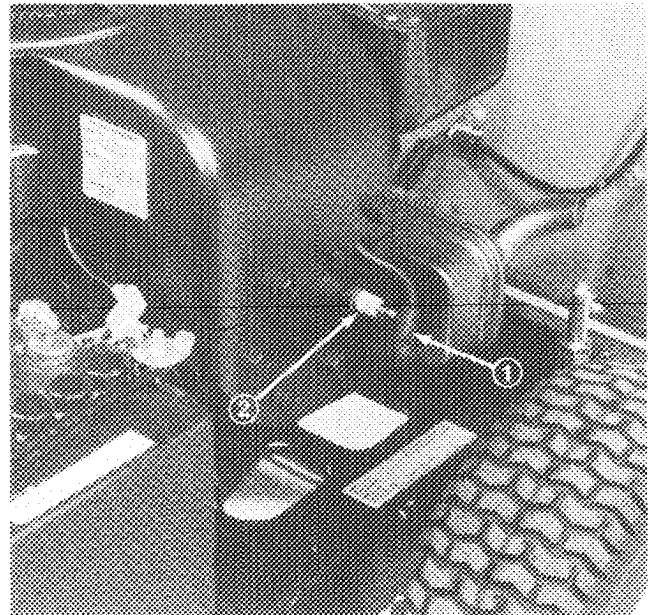

Figure 21
- Pull high tension wire off spark plug and remove plug from cylinder head (Fig. 21).